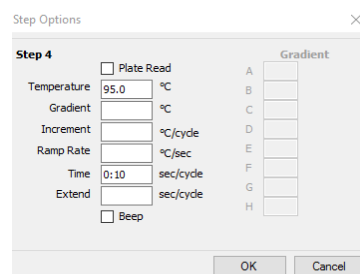

Figure 5. Step Options menu
- 4.7.9. Step Options: Menu with options to change opens. (Figure 5)